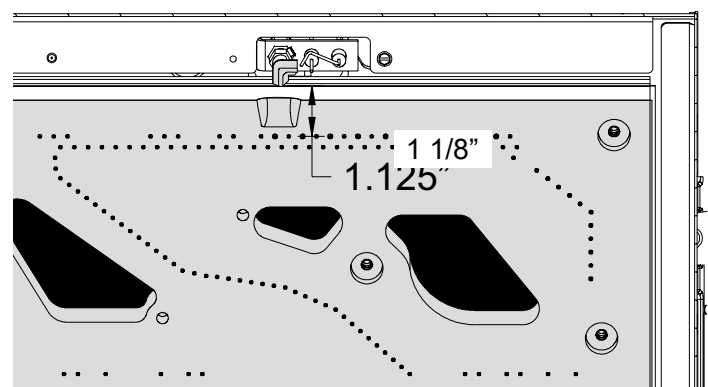

Figure 7.6. Burner and pilot location.
9. Replace the Burner. Tilt the burner assembly downward to engage the venturi tube with air shutter assembly. The front burner supports must engage with the studs at the front of the firebox. **BE CERTAIN THE BURNER IS LEVEL AND SECURELY ENGAGED WITH THE FIREBOX FLOOR.** When properly positioned, the pilot carry-over porting will be 1 1/8" (28mm) from the pilot head. Fig. 7.6.